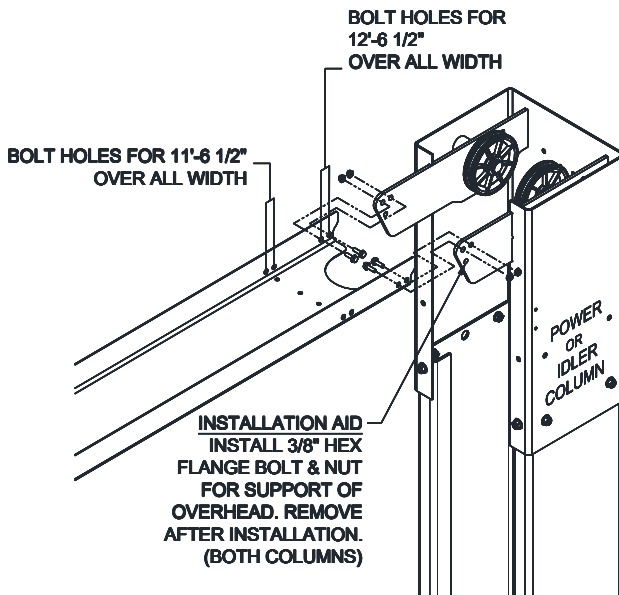

Fig. 8 – Overhead Assembly
- 19) Before raising overhead into position install 4 (2 per column) hex flange bolts and nuts in middle hole of column extension (**see Fig. 8 Installation Aid**) for temporary support of overhead. Lift overhead assembly up into position and install with 8 (4 per column) 3/8-16 x 3/4" lg hex flange bolts and hex flange nuts per side as shown in **Fig. 8**. For the max width position, the outer overhead holes will be used. For the (-6") width, one set of outer overhead holes and one set of inner overhead holes will be used. For the (-12")